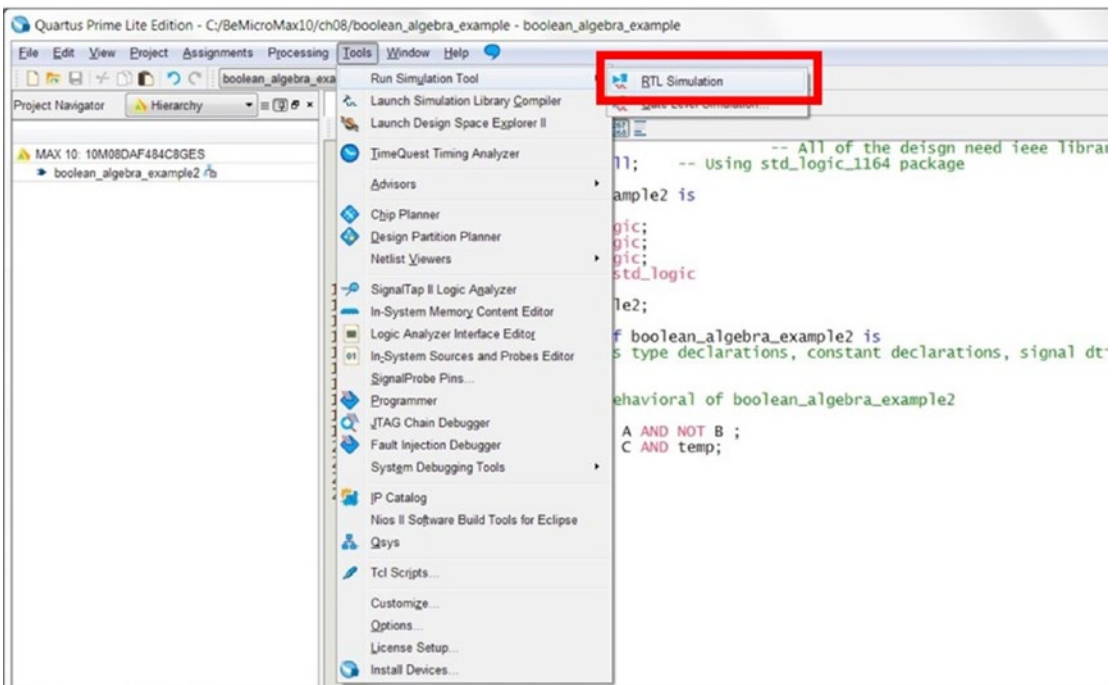
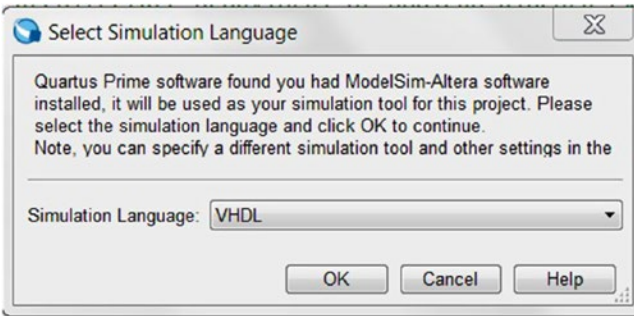

Figure 8-9. Start RTL simulation from Quartus Prime
Figure 8-10. Select Simulation Language
7. Click **Tools** ► **Run Simulation Tool** ► **RTL Simulation** from the Quartus Prime menu to start simulation (Figure 8-9). The Select Simulation Language box will pop up; select **VHDL** and click **OK** (Figure 8-10).